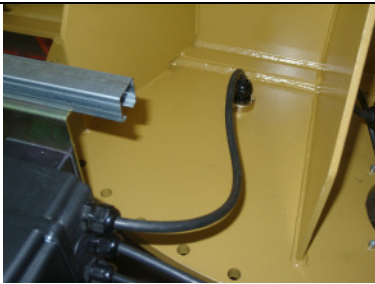

fig.42
1. Connect to the electrical control panel the short cable of the rotating collector ring inserting it through the hole (gland) of the rotation plate of the arm. (fig.42)